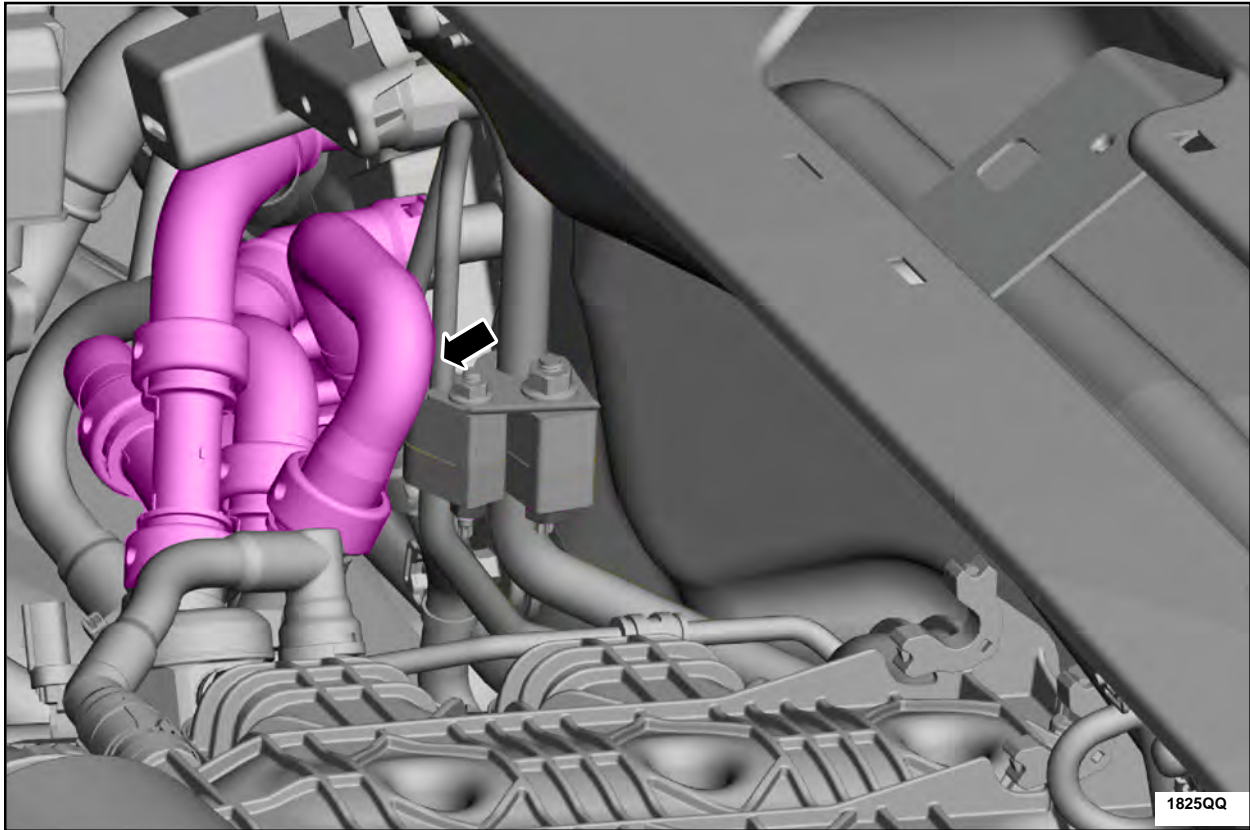

FIGURE 44
86. Install the front and rear heater core hoses to the heater core lines. See Figure 44.